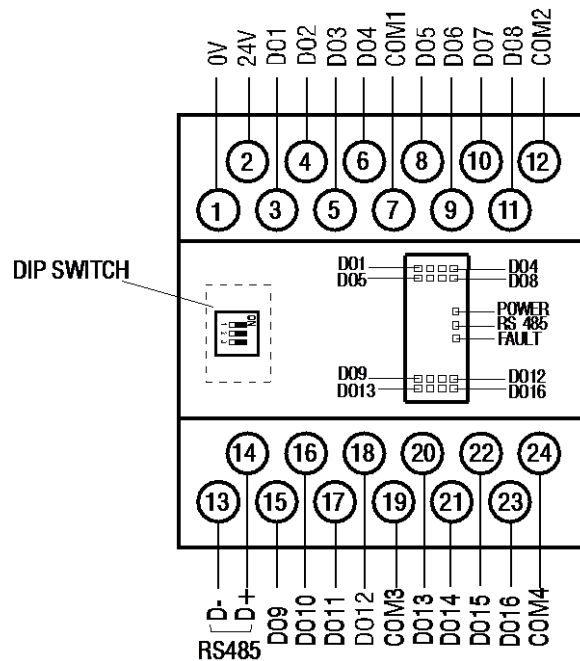

Fig. 4.1 Electrical connections
- The electrical connections are shown in Fig. 4.1 and the terminal assignments in Table 4.1.
- Open the front cover of the module (see Fig. 4.1)